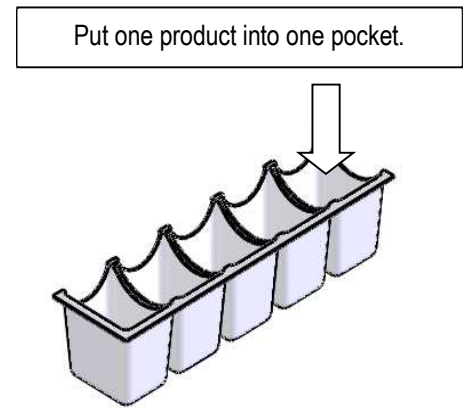

Fig. 2 Example of cutting tray
- (1) Put one product into one pocket.
- (2) Cut a tray for 1 to 99 pieces of samples as shown in figure 2.